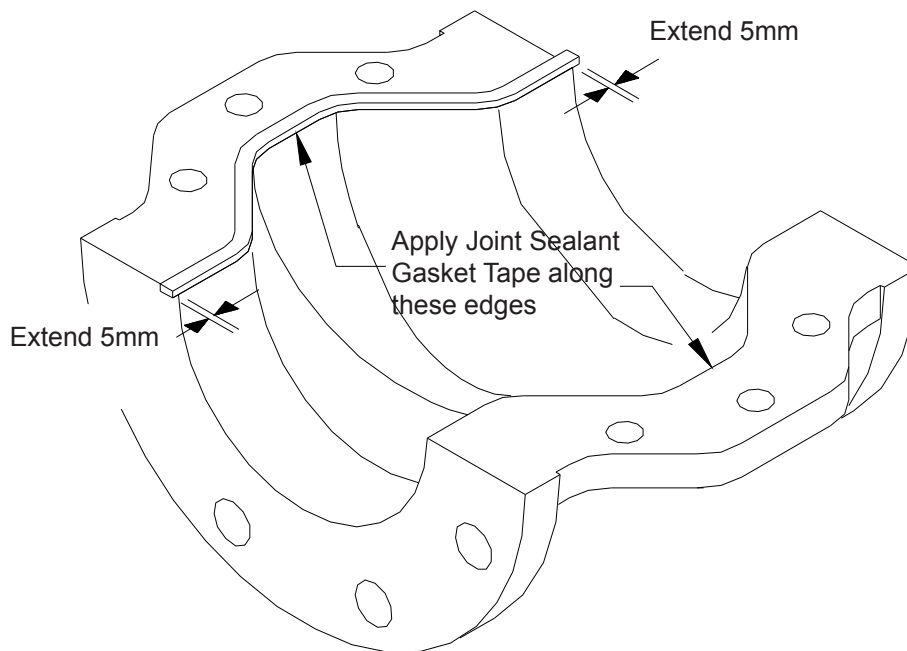

Figure 4-1: Joint Sealant Gasket Tape Application
- STEP 3: 5 mm wide PTFE teflon joint sealant gasket tape is sufficient to seal the valve body halves. Apply the tape to only one of the valve body halves, not both. The tape should follow the interior perimeter of the valve body half with a 1/16" to 1/8" extension beyond the body (see figure 4-1).